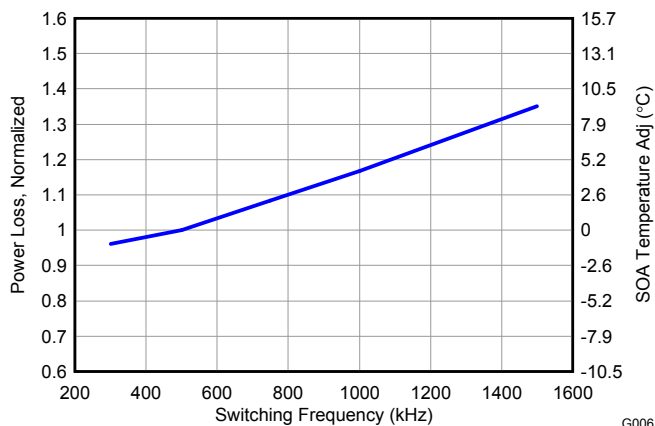

Figure 6. Normalized Power Loss vs Switching Frequency
- Normalized Power Loss for switching frequency  $\approx 1.17$  (Figure 6)
- SOA adjustment for switching frequency  $\approx 4.1^\circ\text{C}$  (Figure 6)